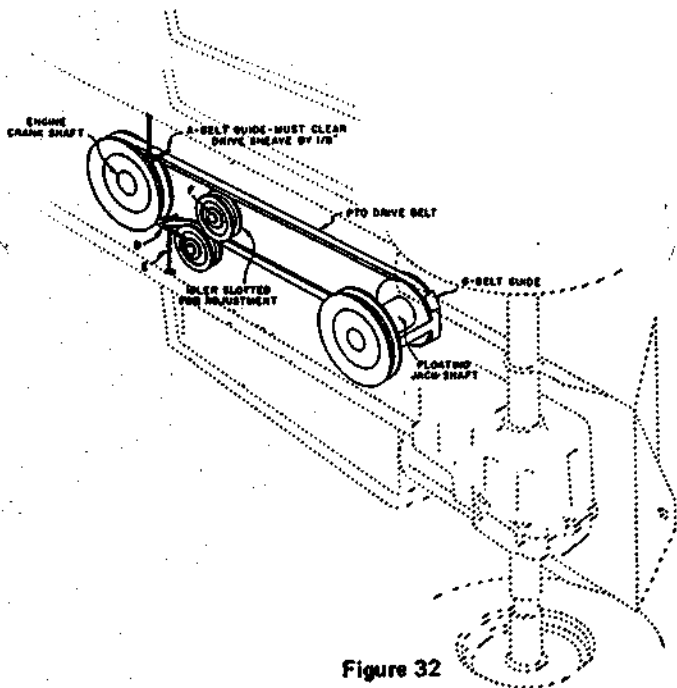

Figure 32
2. Position belt guides D and E, Figure 32, across from one another when the clutch is disengaged in such a manner that the belt is retained in the disengaged position. In addition, guide D must clear the engine sheave by 1/8" as the clutch is moved from the disengaged to the engaged position. Move guide D rearward if necessary to obtain this clearance.
If after adjustment, the rear nuts B, Figure 31, contact the pivot block when the clutch is engaged, loosen bolt F, Figure 32, and move the idler closer to the belt to provide additional adjustment. Repeat the complete adjustment sequence if it becomes necessary to move the idler.
### PTO DRIVE BELT - (Figure 32)